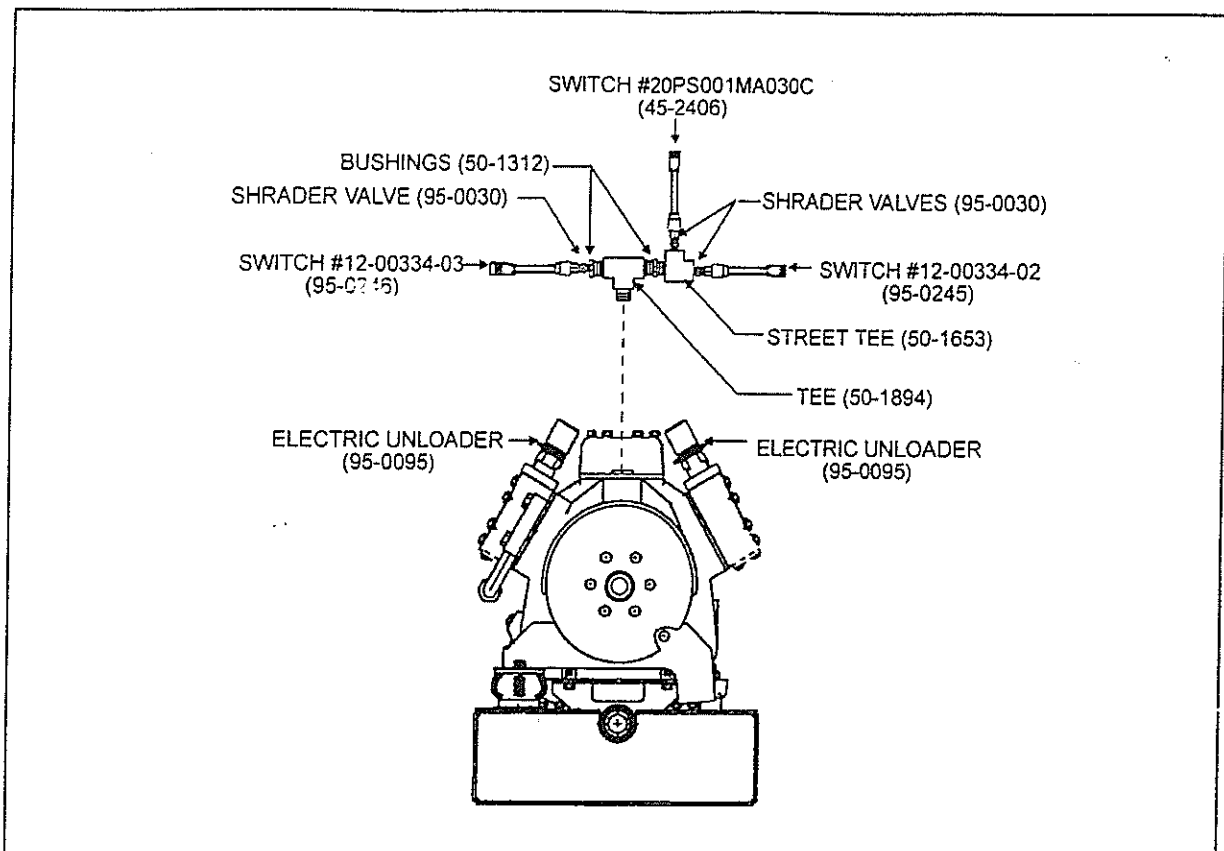

Fig. 2 - Pressure Switch Installation (Suction side)
2. Remove and discard the low pressure switch (and bushing or elbow if applicable) from compressor body, install a Tee (#50-1894) at an angle pointing to right rear corner of vehicle, two bushings (#50-1312), a street Tee (#50-1653) then three "Schrader" valves (#95-0030) as illustrated in figure 2.
3. Install both low pressure unload switches (#95-0245 & #95-0246) and low pressure switch (#45-2406) on "Schrader" valves as illustrated in figure 2.
10. Connect the existing male connector (C-53) to the Low Pressure Switch #20PS001MA030C (Prevost #45-2406) illustrated in figure 2.